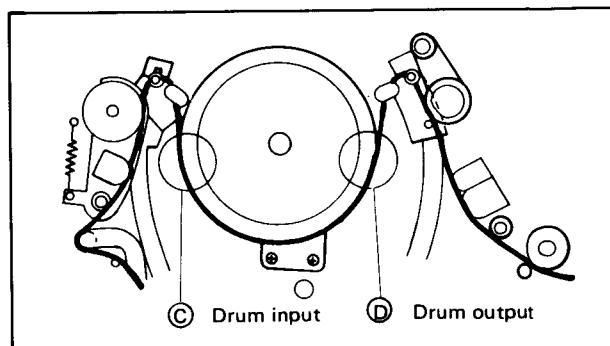

Fig. 4-39 Tape transport check
- During Play mode, observe tape at the input and output portions (**(C)** and **(D)** in Fig. 4-39) of the head drum lead.